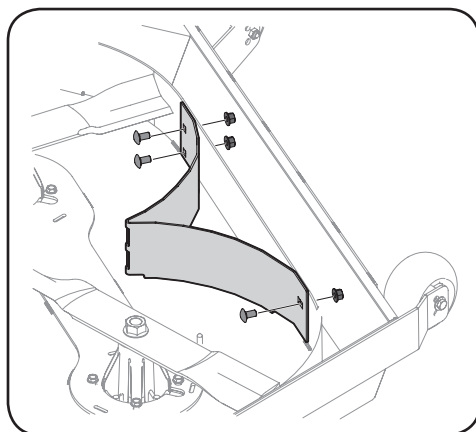

Figure 1-7
3. Install the left baffle using three $\frac{3}{4}$ " carriage bolts (and three flange nuts) to secure it. See Figure 1-7.